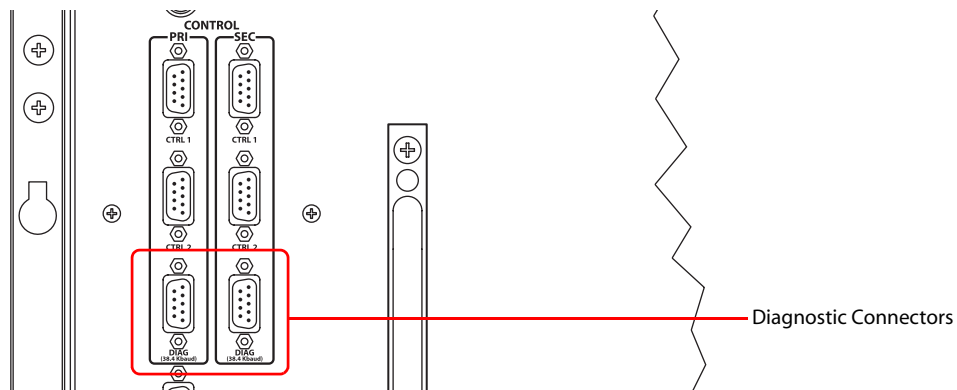

Figure 1-21. Permanent Diagnostic Connections (Rear View)
Diagnostic connections connect the router to the computer (PC) running the MRC application. Two diagnostic connections are located on the rear of the router, labeled 'DIAG'. The ports are divided into two sets: one primary ('PRI') and one secondary ('SEC'), as shown in Figure 1-21. The primary control connects to the primary control card. The secondary control connects to the secondary (optional for redundancy) control card. For instructions, see Making Diagnostic Connections on page 94.